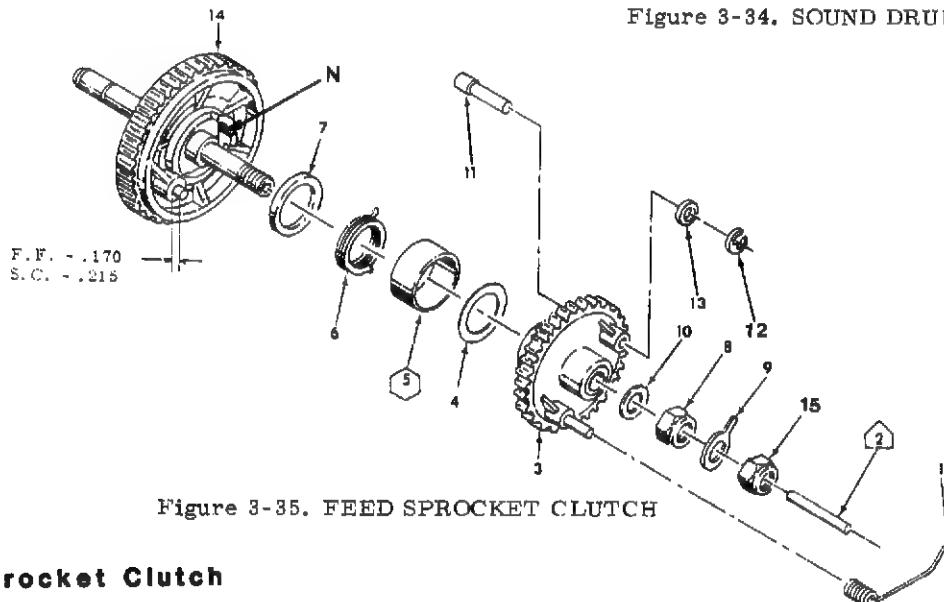
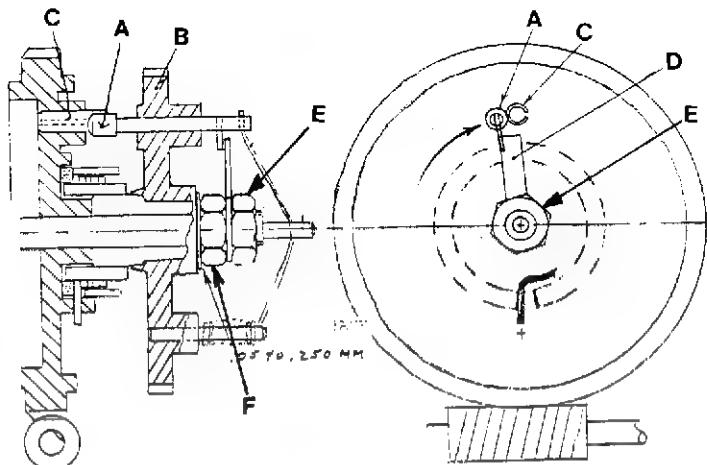

Figure 3-35. FEED SPROCKET CLUTCH
Figure 3-36. FEED SPROCKET CLUTCH ADJUSTMENT
- Lubricate the Spring (6) with 009 Lubricant (39479-P7) (Figure 3-35).
- Assemble the Lubricating Pad (7) and the Clutch Spring (6) making sure the tail of the Spring (6) is trapped in the Notch (N) of Gear (14).
- Assemble Pin (11) to the Gear and Hub Assembly (3) and assemble the remaining parts on the shaft of Gear (14) in the order shown.
- Adjust the Nut (8) to obtain .002" to .010" end play on the Gear and Hub Assembly (3).
- Assemble Stop (9) and Nut (15) and tighten the Nut (15) just enough to hold the Stop in place.
- Depress Pin (A) and turn Clutch Gear (B) clockwise until Pin (A) touches Pin (C). HOLD GEAR (B) — DO NOT ALLOW IT TO SPRING BACK. (Figure 3-36)
- Position the Stop (D) so that the corner or edge is just over the small cross pin of Pin (A) as shown.
- Hold Nut (F) to prevent it from turning and tighten Nut (E) being careful not to allow Stop (D) to turn during this tightening process.
- Recheck the end play of the Gear and Hub Assembly (B) for .002" to .010". Repeat Steps 6 through 9 until the Stop (D) is positioned properly and the end play is correct.
11. Lubricate the outside diameter of Pin (2) with Teresso Instrument Oil (39479-P8) and insert the pin in the hole in the end of the shaft of Gear (14). (Figure 3-35)
12. Insert the Spring (1) through the hole in the end of Pin (2) and then into the hole in the end of Pin (11).
13. Push the Spring (1) onto the Roll Pin protruding from the Gear and Hub Assembly (3). (On Fast Forward models, be sure the cross pin in Pin (11) is pointing toward the shaft of Gear (14).)